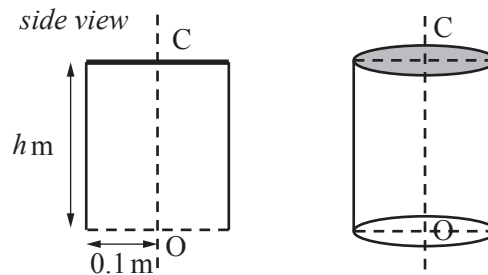

Fig. 4.1
- 4 Fig. 4.1 shows a hollow circular cylinder open at one end and closed at the other. The radius of the cylinder is 0.1 m and its height is h m. O and C are points on the axis of symmetry at the centres of the open and closed ends, respectively. The thin material used for the closed end has four times the density of the thin material used for the curved surface.